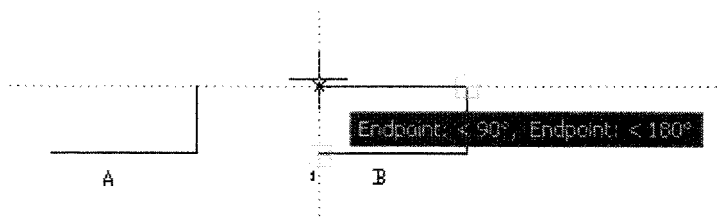

Figure 2.12
With OSNAP on, OTRACK will track the ENDpoint, MIDpoint or CENTER of an object and line up a new point exactly across from or beneath it. OTRACK works vertically or horizontally. First draw in the lines as shown in Figure 2.12 (A).
Make a line from the top right corner, lining it up with point 1 as shown on Figure 2.12 (A). Then draw your cursor across the endpoint of point 1 without picking it. Move it up level to your beginning point. When you have found the position that lines up, pick that point. AutoCAD will create a line using the X value of point 1 and the Y value of your start point in Figure 2.12 B. It's a lot easier to do than to explain.